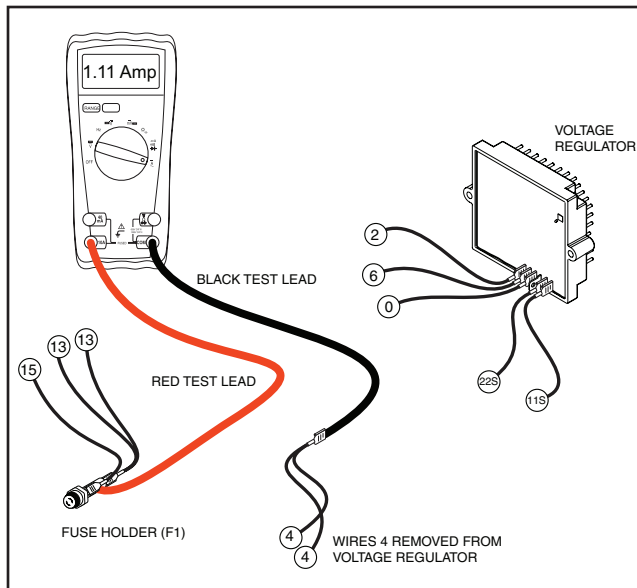

Figure 7-6. – Fixed Excitation Test, Step D
10. Connect one meter test lead to the 12 volt fused battery supply Wire 15, and connect the other meter test lead to Wire 4 (should still be disconnected from the VR). See Figure 7-6.